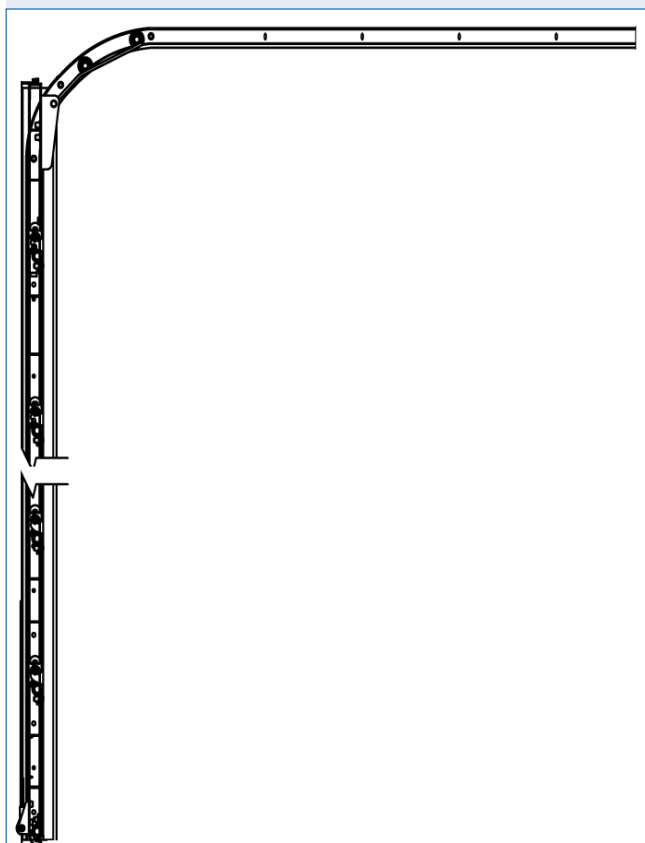

Fig. 2.2.1
- Position the **horizontal guide rails** at an angle of 90° to the vertical guide rail (see Fig. 2.2.1 & installation drawing) in extension of the radius and parallel to the roof.